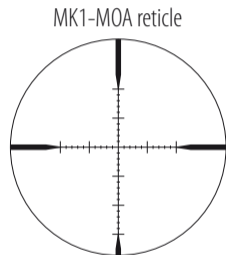
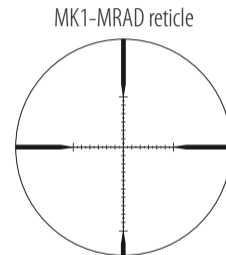

Fig. 3-1
Fig. 3-2
(1) Focusing
- 1 Look through the eyepiece with your eye positioned about 4 in. (10 cm) away from the eyepiece to see the MK1-MOA reticle (Fig. 3-1) or the MK1-MRAD reticle (Fig. 3-2).